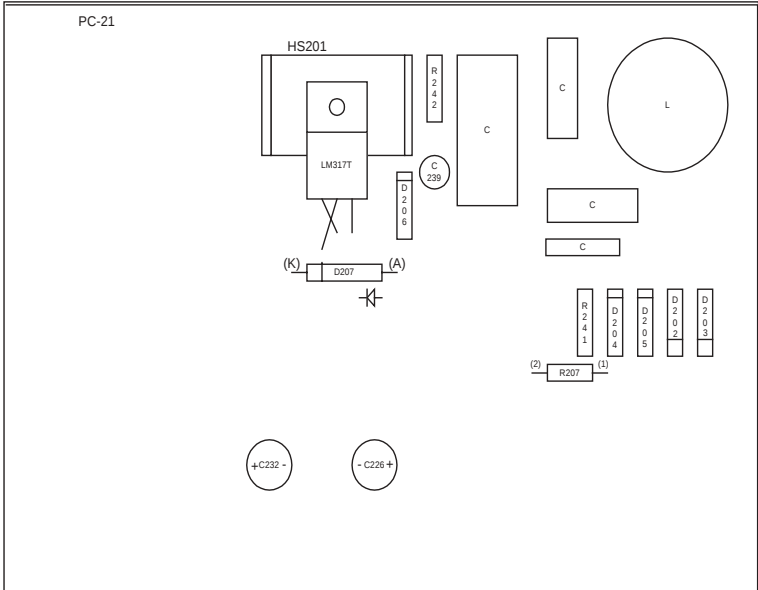

FIGURE 3: Principal parts placement on PC-21.
3. Refer to *Fig. 2* or *Fig. 3* to read pipe length from the curve marked "length inches" line and left axis.
- Refer to Fig. 2 or Fig. 3 to read stuffing density from the stuffing density line and right axis.
FIGURE 3: α -transmission line length and stuffing density—polyester, cotton, AcoustaStuf. After you decide which pipe frequency $f\theta$ you want to use for your project, use the length line to read the proper length. The length is in inches on the left axis. At the same $f\theta$, read the fiberglass stuffing density and the recommended stuffing amount on the right axis. Stuffing is given in pounds per cubic foot. To convert to metric units: inches divided by 39.35 equals meters. Pounds per cubic foot times 16 equals grams per liter.